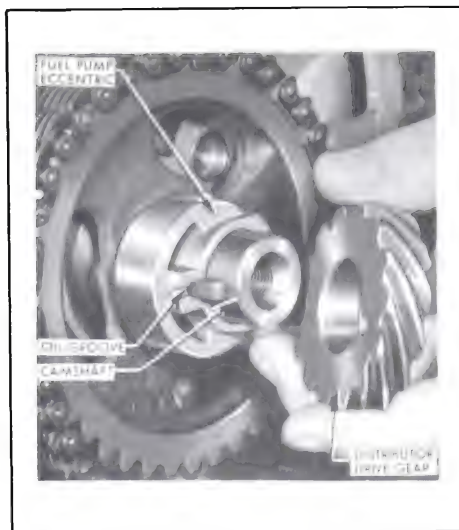

Figure 2-36—Fuel Pump Eccentric and Distributor Drive Gear Installation
5. Slide fuel pump eccentric on camshaft and Woodruff key with oil groove forward. See Figure 2-36.
6. Install distributor drive gear. See Figure 2-36.